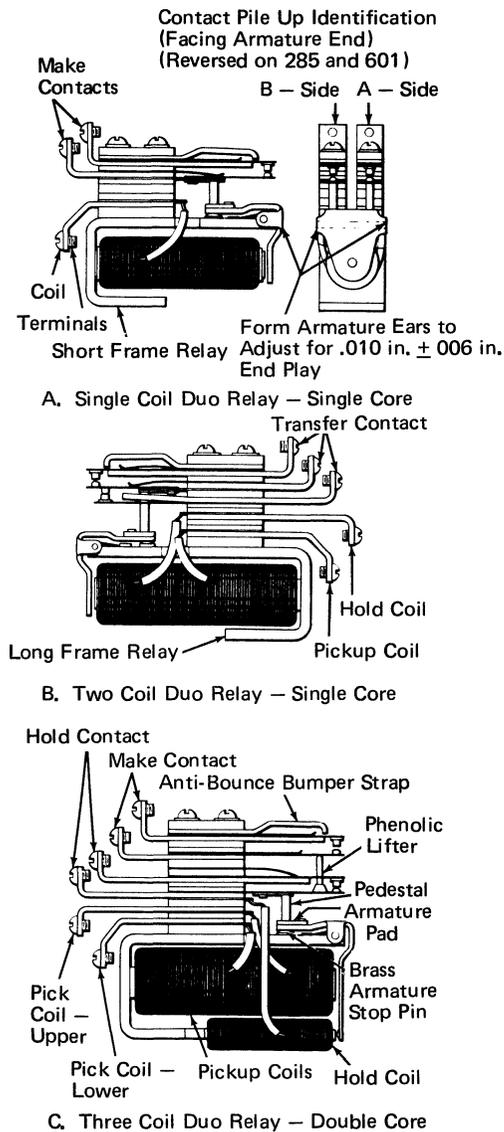

Figure 2-34. Typical Duo Relays
The duo relay provides simultaneous control over several different circuits. It is used over a wide range of operating speeds and contact point combinations in most IBM machines. There are short and long frame relays; also one- and two-core relays. Various combinations of coils and contact points provide relays of large or small current capacity, slow or fast pickup speed, and slow or fast dropout speed. Suitable circuit combinations and relay designs may provide for delayed action in either the pickup or dropout time of these relays. Figure 2-34 illustrates several types of duo relays.
8. The armature should be lubricated. Lubricate the armature pad with a *small* amount of light oil at the point where the contact pedestals rest on the pad. This prevents wearing the pad and accumulating reddish dust as this point (Figure 2-34).